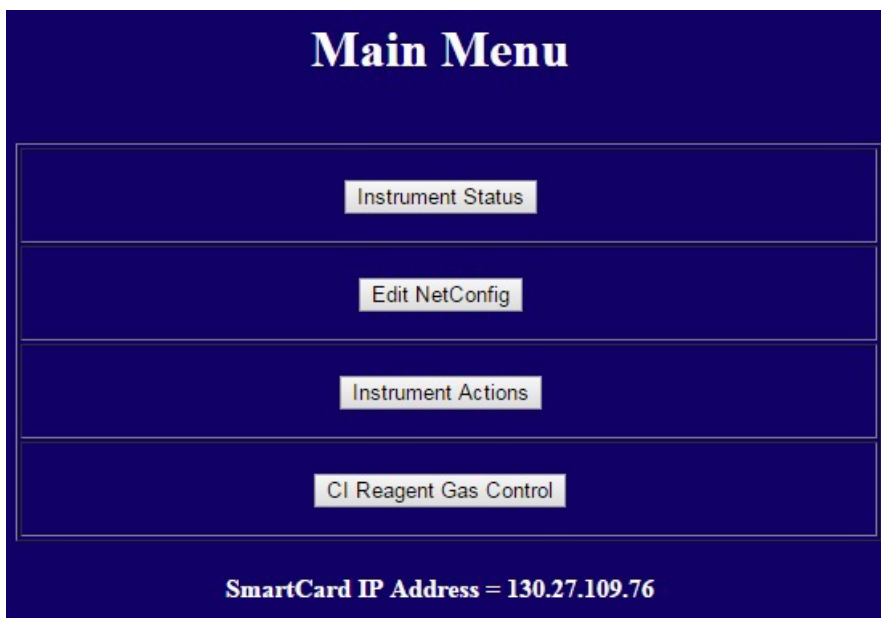

Figure 28. WUI main menu
- 2 Enter the instrument IP address into a PC web browser URL to display the WUI Main Menu page. (See Figure 28.)